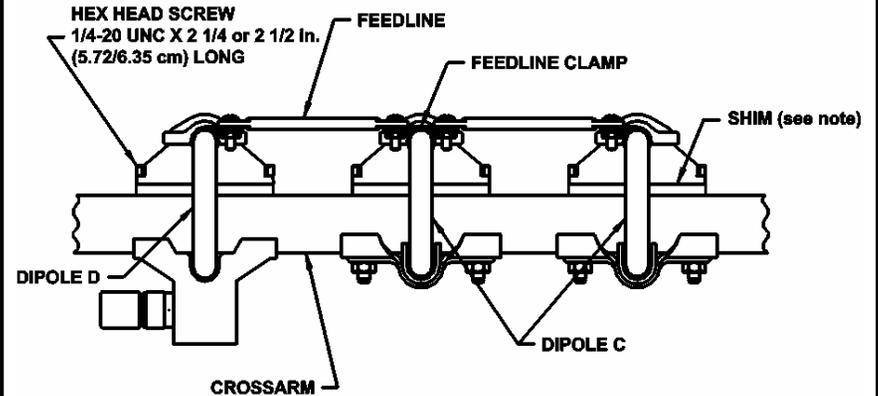

FIGURE 2
1. Next, starting with dipoles "C" assemble dipoles "C" and "D" to their marked locations on the crossarm as shown in Figure 2.. Use the 1/4-20 x 2 1/4" hex head screws.